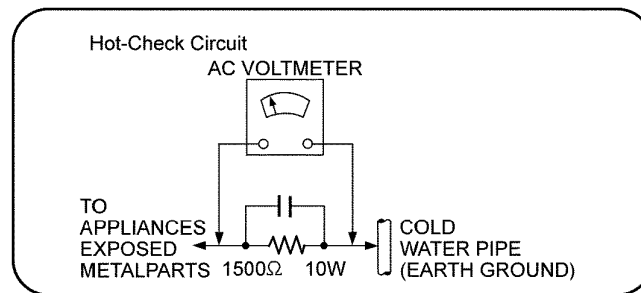

Figure. 1
2. Connect a $1.5\text{k}\Omega$, 10 watts resistor, in parallel with a $0.15\mu\text{F}$ capacitors, between each exposed metallic part on the set and a good earth ground such as a water pipe, as shown in Figure 1.